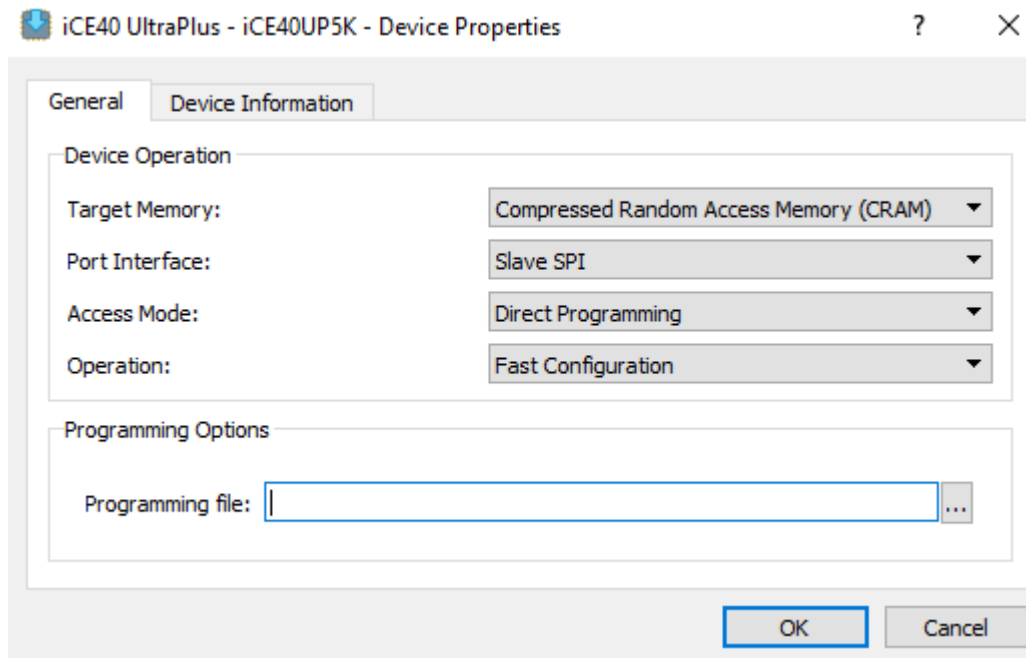

Figure 6.5. Device Properties for iCE40 Device Configuration Memory
6. In the **Device Properties** dialog box, apply the as shown in Figure 6.5.